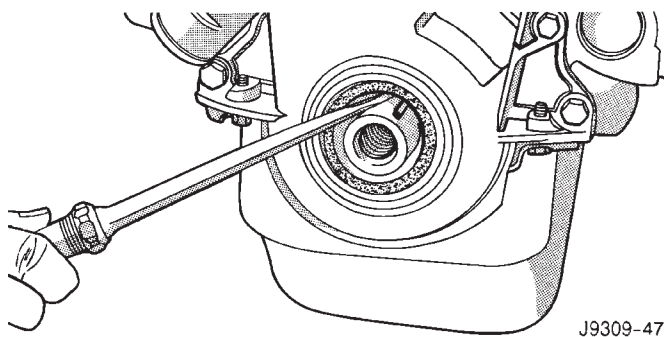

Fig. 22 Removal of Front Crankshaft Oil Seal
- (1) Disconnect the negative cable from the battery.
- (2) Drain cooling system (refer to Group 7, Cooling System).
- (3) Remove the serpentine belt (refer to Group 7, Cooling System).
- (4) Remove water pump (refer to Group 7, Cooling System).
- (5) Remove power steering pump (refer to Group 19, Steering).
- (6) Remove vibration damper.
- (7) Loosen oil pan bolts and remove the front bolt at each side.
- (8) Remove the cover bolts.
- (9) Remove chain case cover and gasket using extreme caution to avoid damaging oil pan gasket.
- (10) Place a suitable tool behind the lips of the oil seal to pry the oil seal outward. Be careful not to damage the crankshaft seal surface of cover (Fig. 22).